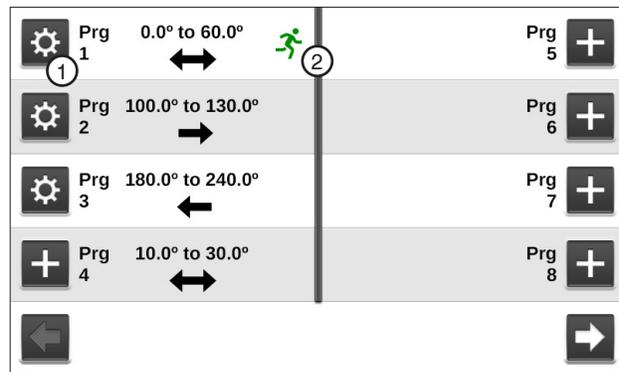

Figure 142-1 Sector Programs Screen
1. Push **Menu**, **Programs** and **Sector Programs** to view the Sector Programs screen. Refer to Figure 142-1.